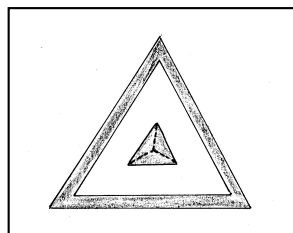

figure 10
- 2) Find the center of the interior space and mark it. Draw lines from the center to the inside line (figure 10). You will need at least 3 or 4 lines to define the shapes of the tabs that will be folded upward later. With a craft knife, cut along these lines from the center point out to the inner line but do not cut along the interior line.